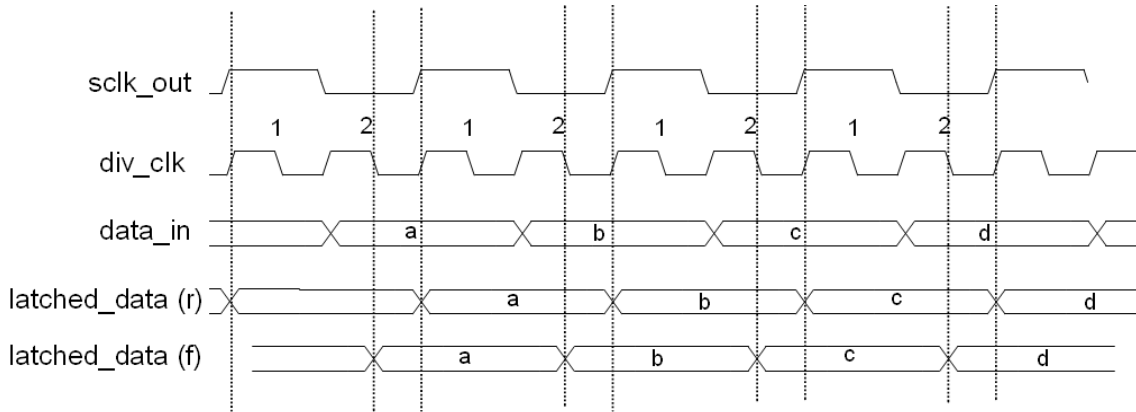

Figure 3 Illustration of data line latch timing
- DLT** Data Latch Timing. The register is used for SW to select the latch timing on data line. Figure 3 illustrates the data line latch timing. *sclk_out* is the serial clock output to card. *div_clk* is the internal clock used for generating divided clock. The number "1 2 1 2" means the current *sclk_out* is divided from *div_clk* by a ratio of 2. *data_in* is the output data from card, and *latched_data(r)/(f)* is the rising/falling edge latched data inside the host (configured by RED in MSDC_CFG). In this example, SCLKF(in MSDC_CFG) is set to 8'b0 which means the division ratio is 2, and DLT is set to 1. Note that the value of DLT CANNOT be set as 0 and its value should not exceed the division ratio (in the example, the division ratio is 2). Also note that, the latching time will be one *div_clk* later than the indicated DLT value and the falling edge is always half *div_clk* ahead from rising edge. The default value of DLT is set to 8'b2.